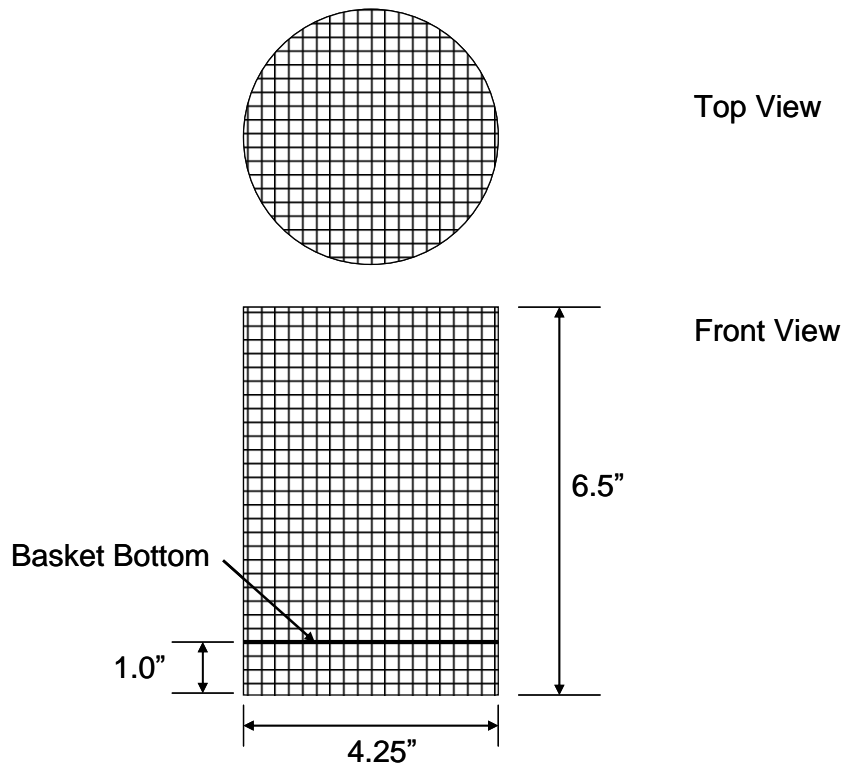

Figure 1—Wire Basket Assembly
- 2.4 *Wire basket*, constructed with 0.25-in. sieve cloth, dimensions shown in Figure 1.